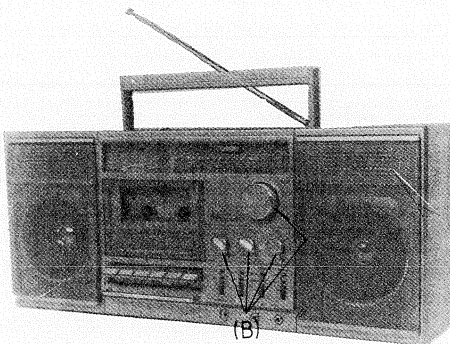

Figure 2
1. Remove 4 knobs (B) and 9 screws (C) from chassis. (See figure 2,3)